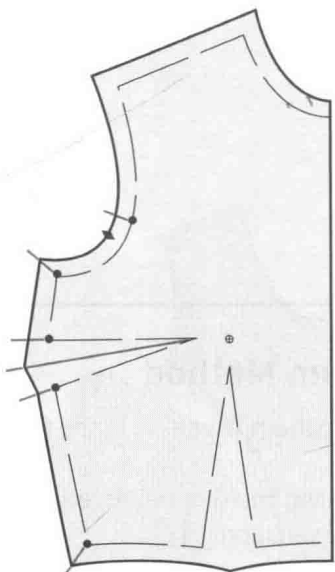

FIGURE 6.26b Draw clip lines and dart cut line.
3. Draw clip lines across the seam allowance at each pivot point (see Figure 6.26b).